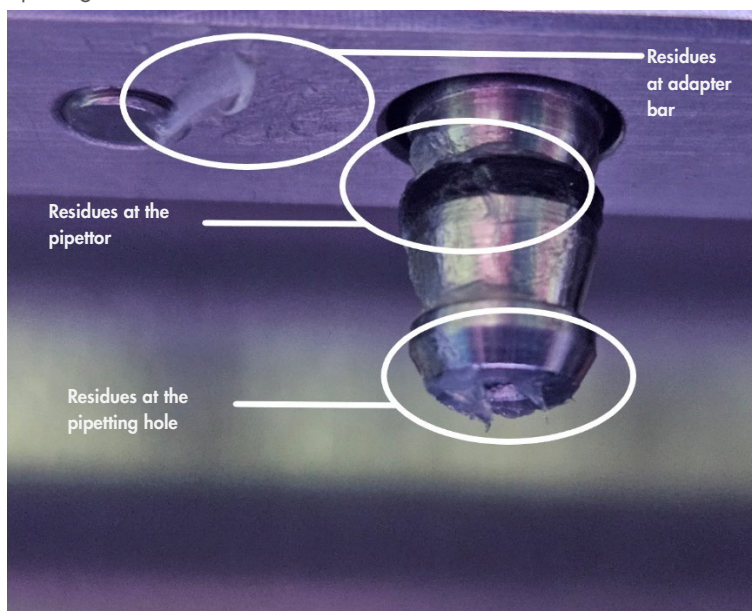

Figure 180. Example of an overgreased tip adapter. All marked spots should be checked and all visible grease residues should be removed.
8. Make sure that there is no grease present on parts other than the D-rings, especially on the bar on top and the opening of the pipettors (see Figure 180, below).